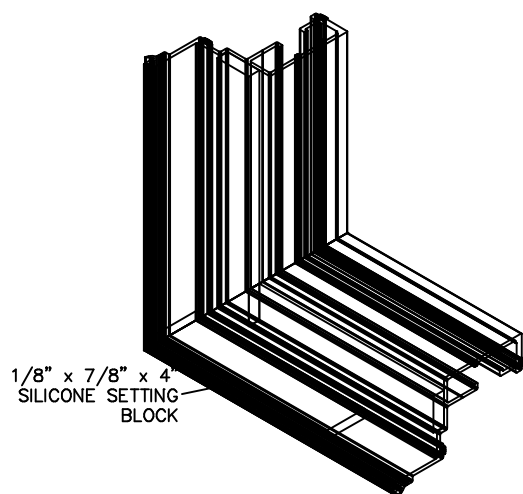

FIGURE 2
5. INSTALL SETTING BLOCKS AT EACH END OF SILL, AS SHOWN IN FIGURE 2.